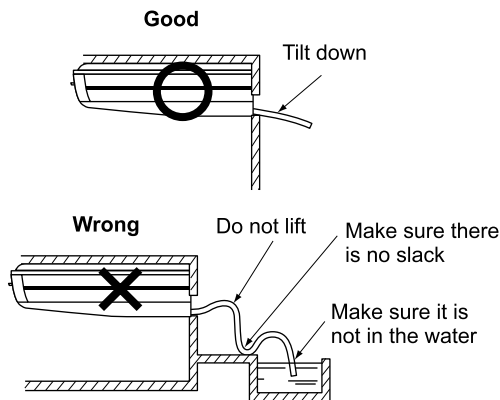

Fig. 21
- Keep the drain pipe short and sloping downwards at a gradient of at least 1/100 to prevent air pockets from forming. **(Refer to Fig. 21)**